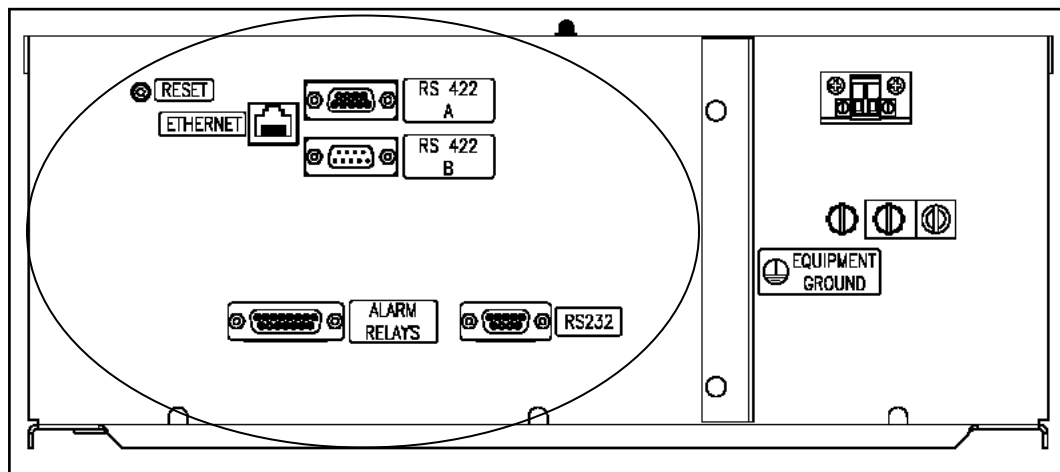

Figure 6. ADH NETCOM AC NEMA COMMUNICATIONS CONNECTIONS.
9. Once the communications cables have been fed into the enclosure, connect the cables to their respective ports inside the enclosure. Refer to the labels on the enclosure, as well as to the internal interconnect diagrams for more detailed information. Refer to Figure 6. As in step 6, seal the communications cable access hole so that no ambient air can get into the enclosure. If desired, seal the hole first, then connect the wires.